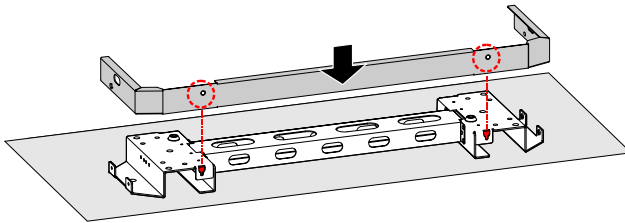
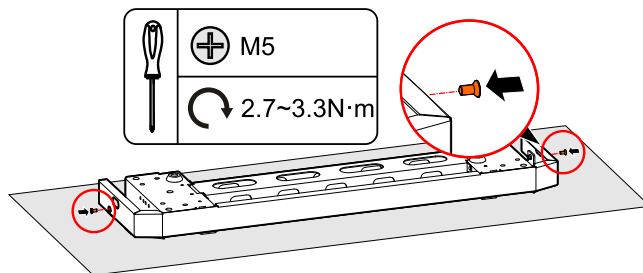

Figure3-16 Install the cover plate
Figure3-17 Fasten the cover plate
Step 6 Lead the cover plate into the base module and fix it with screws, as shown in Figure3-16, Figure3-17.